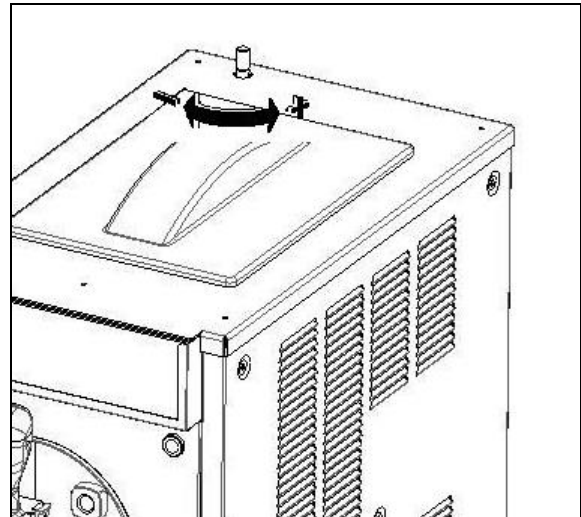

Fig. 9
- In order to modify the consistency of the product, turn the screws located on the back of the machine in the following way: clockwise to make the product less dense, counter-clockwise to make the product denser (see figure 9).